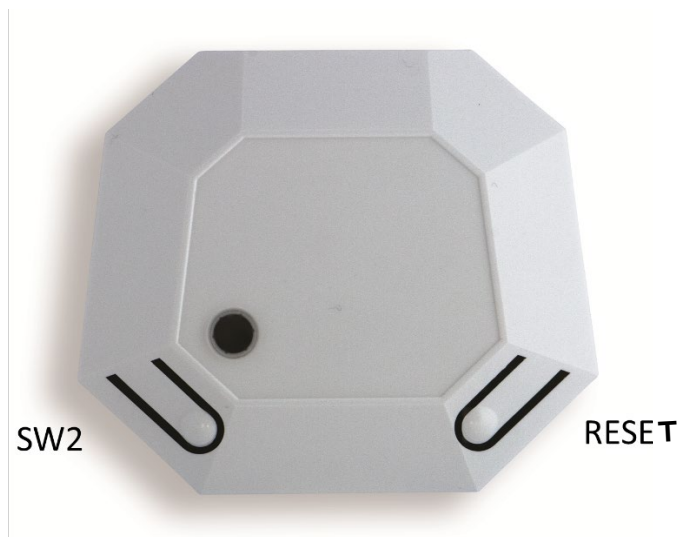

Figure 14: C209 showing cover and buttons
2. If installing the software over the UART interface using the DFU bootloader, press and hold the SW2 button on the C209 tag while resetting the board (either by inserting the USB cable or pressing the RESET button) to set the bootloader in “download” mode. See also Figure 14.